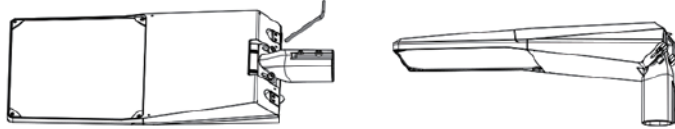

Figure 1. Adjusting the angle of the street light mounting bracket.
- If necessary, loosen the fixing screws of the mount with an Allen wrench and adjust the angle of the mount according to the results of the optical simulation. You can also turn the direction of the mount to adjust it to a vertical installation structure, as shown in Figure 1.